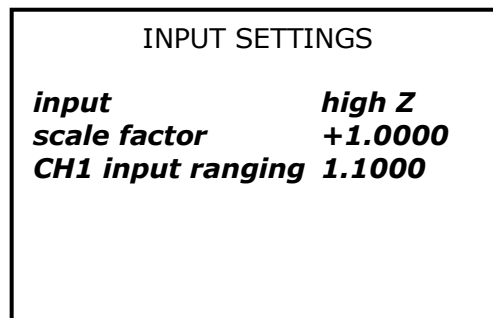

Figure 6.1
- 6 INPUT KEY** – This controls the signal input connections, the menu has three functions, "*input*", "*scale factor*" and "*CH1 input ranging*". These options are in all modes however an additional *CH2 input ranging* function is available in "*FRA*" mode. Figure 6.1 displays this screen.